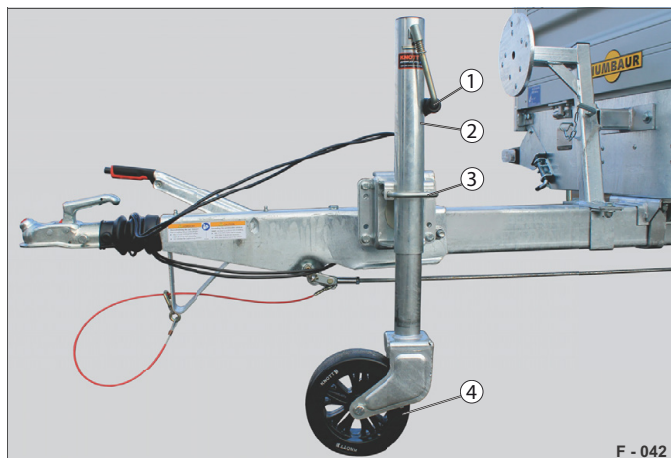

Fig. 17 Support position
The pivoting jockey wheel (Fig. 17 /4) can be operated quickly thanks to the spring-loaded locking latch (Fig. 17 /3).
The fold-in crank (Fig. 17 /1) prevents unauthorised operation, e.g. by children.
- The jockey wheel is in support position - see (Fig. 17).